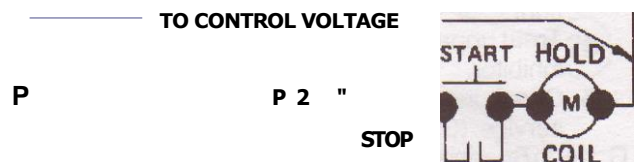

FIGURE 1
- Motors with this type of "Overheat Protective Device" have protector leads brought out in the motor conduit box marked "P1" and "P2". These leads are intended for connection in series with the stop button of the 3-wire pilot circuit for the magnetic starter which controls the motor. See Figure 1.